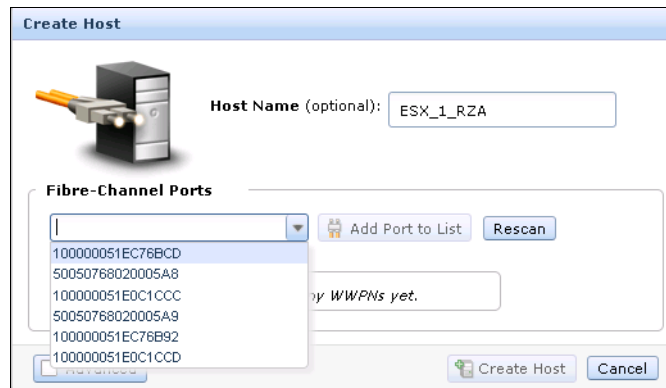

Figure 4-19 Available WWPNS
2. Enter a host name and click the **Fibre Channel Ports** drop-down menu to see a list of all known WWPNS, as shown in Figure 4-19.